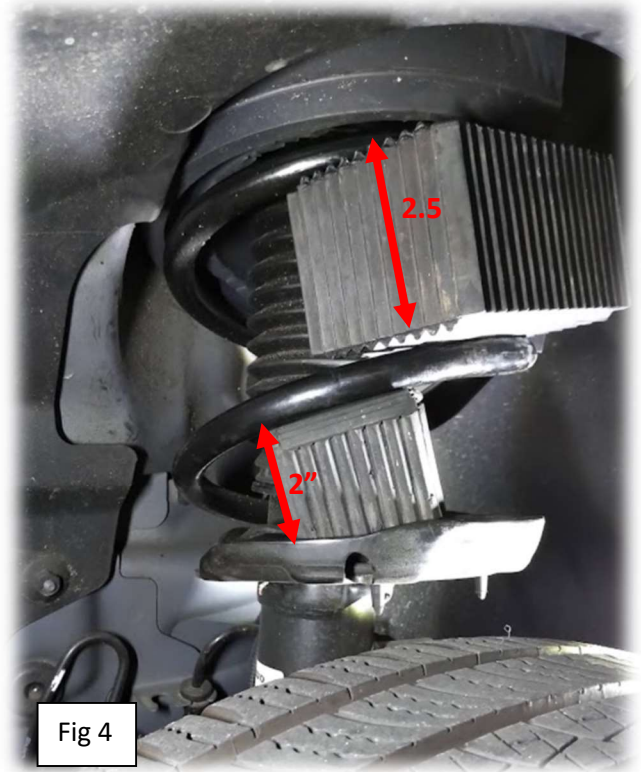

Fig 4
8. Fig4 shown extra RB275-2-175 block installed on smaller coil spring gap (2") under the RB35-25-125 (2.5" side). Different size blocks can be installed on various gap distances on the same coil spring.